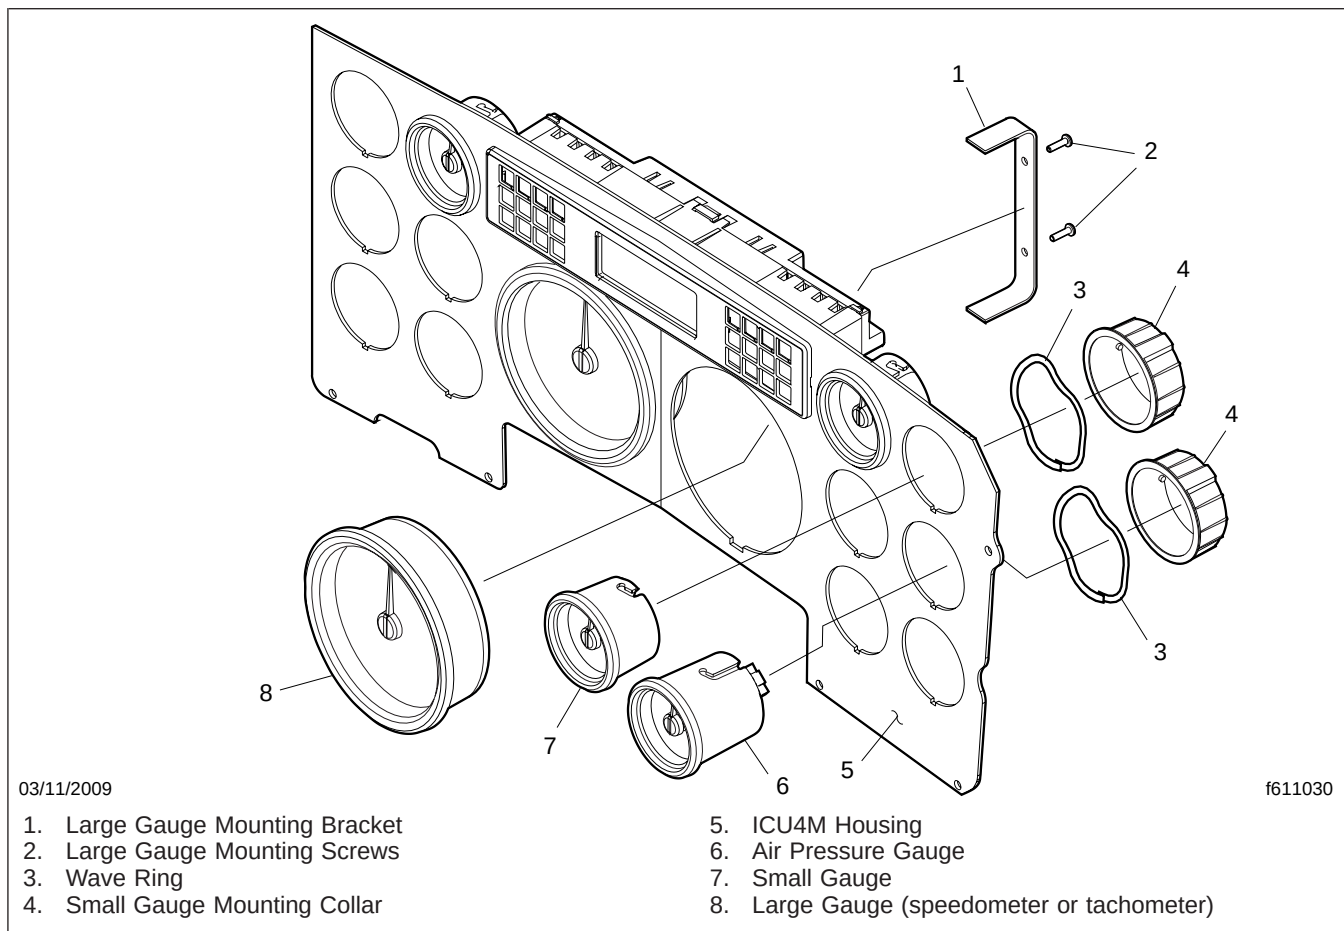

Fig. 3, Gauge Replacement (ICU4M shown)
2. Remove the two Torx screws that secure the mounting bracket and the gauge to the ICU4M housing. See Fig. 3.